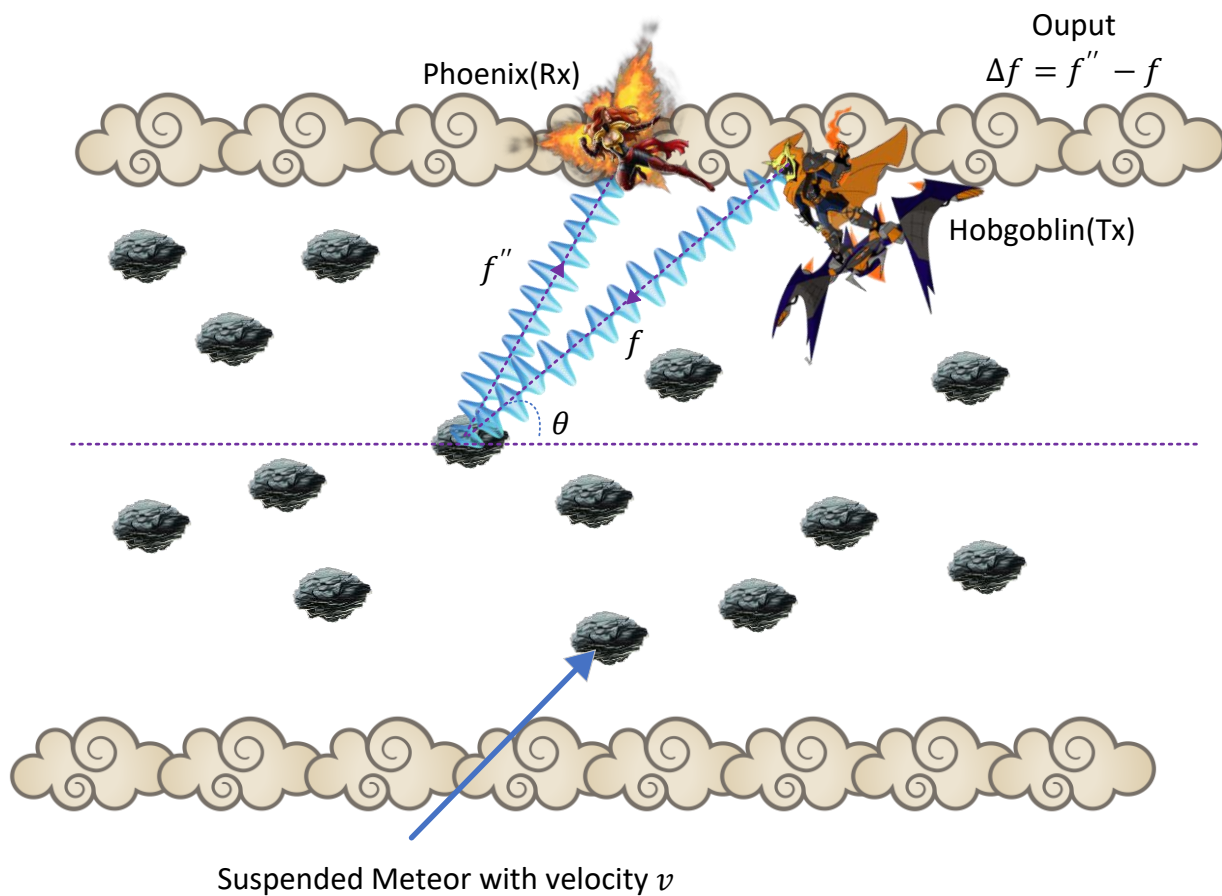

Figure 9: Inferno Meteor Velocity Measurement
Hobgoblin deputizing for the injured Banshee agrees to help Phoenix (a.k.a Jean Grey) in measuring the velocity of travelling meteors in the ionosphere [ *X-Men Inferno Crossover (1988)* ] thrown by one Madelyn Pryor. A sonic pulse transmitter ( $T_X$ ) (fitted to Hobgoblin's facemask) transmits sonic pulses that refract off the meteor surface and are received by Phoenix (Acting as the  $R_X$ ). The experimental setup is shown in Figure 9. According to Dr. Hank McCoy the  $T_X$  transmits continuous sound waves at a **frequency**  $f = 1\text{MHz}$  and the **velocity** of the meteors is in the dynamic range  $5\text{ms}^{-1} \leq v \leq 20\text{ms}^{-1}$ .
**12.1:** Explain the working principle that the experimental setup in Figure 9 is based on (\*cough\* Doppler), hence give an appropriate **expression for the flow velocity** ,  $v$  , in terms of the Doppler shift  $\Delta f$ . Upon further consultation with Dr. McCoy it is agreed that only the frequency of the Doppler signal is used for calculations. **\*Additionally you may assume  $v \ll c$  is really tiny\***